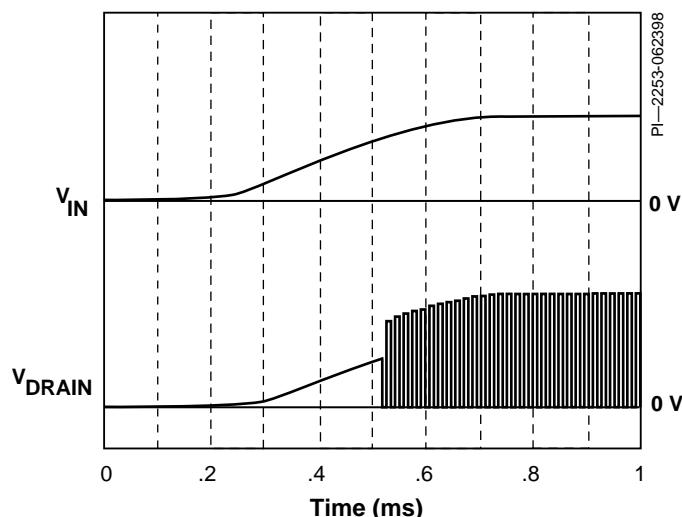
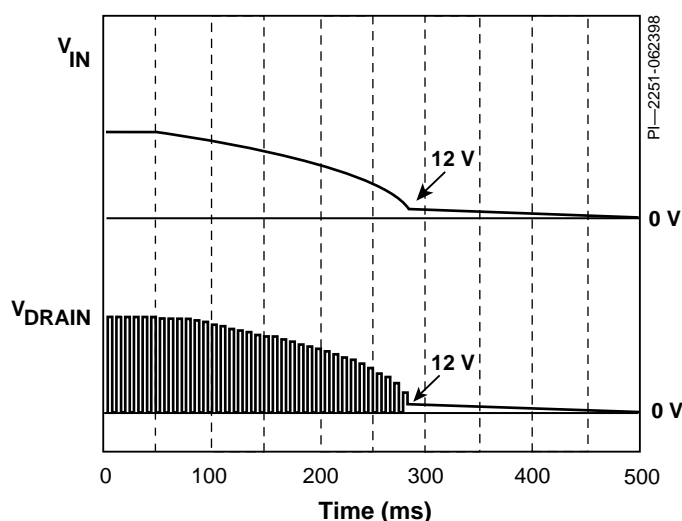

Figure 7. TinySwitch Power-Up Timing Diagram.
Figure 8. TinySwitch Power Down Timing Diagram.
*TinySwitch* requires only a 0.1  $\mu\text{F}$  capacitor on the BYPASS pin. Because of the small size of this capacitor, the power-up delay is kept to an absolute minimum, typically 0.3 ms (Figure 7). Due to the fast nature of the ON/OFF feedback, there is no overshoot at the power supply output. During power-down, the power MOSFET will switch until the rectified line voltage drops to approximately 12 V. The power MOSFET will then remain off without any glitches (Figure 8).